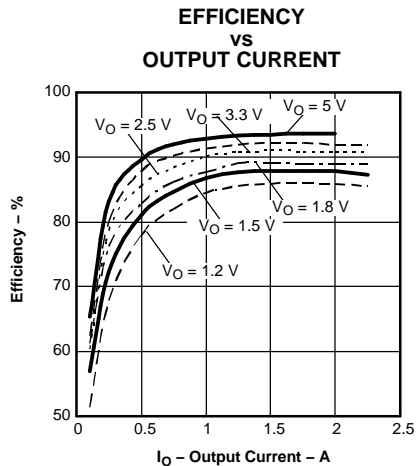
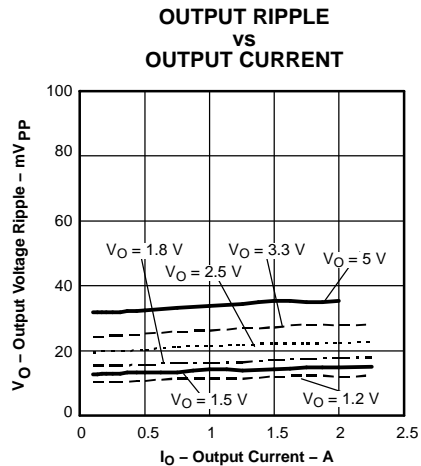
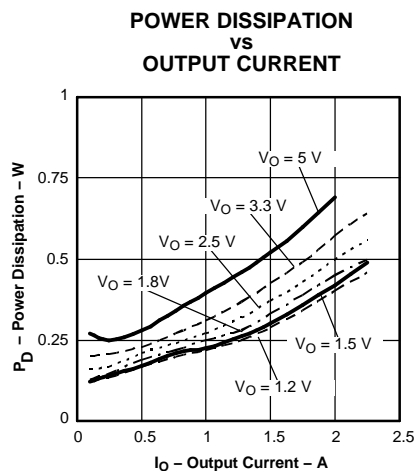

Figure 6.
Figure 7.
Figure 8.
- (1) The electrical characteristic data has been developed from actual products tested at 25°C. This data is considered typical for the converter. Applies to Figure 6, Figure 7, and Figure 8.